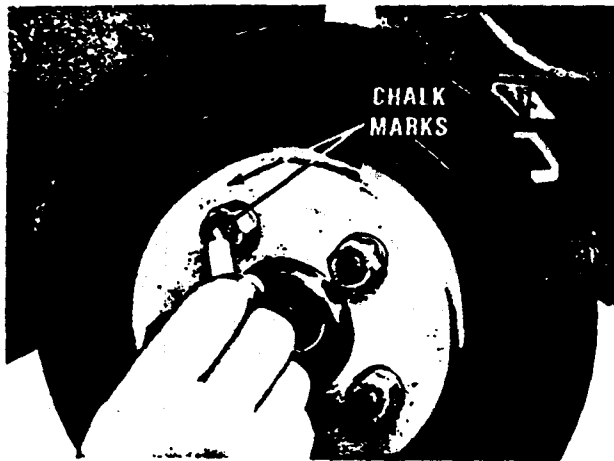

Fig. 24 — Marking disc and wheel stud.
6. Make a chalk mark on both the disc and one wheel stud, where the runout was the greatest (Fig. 24).